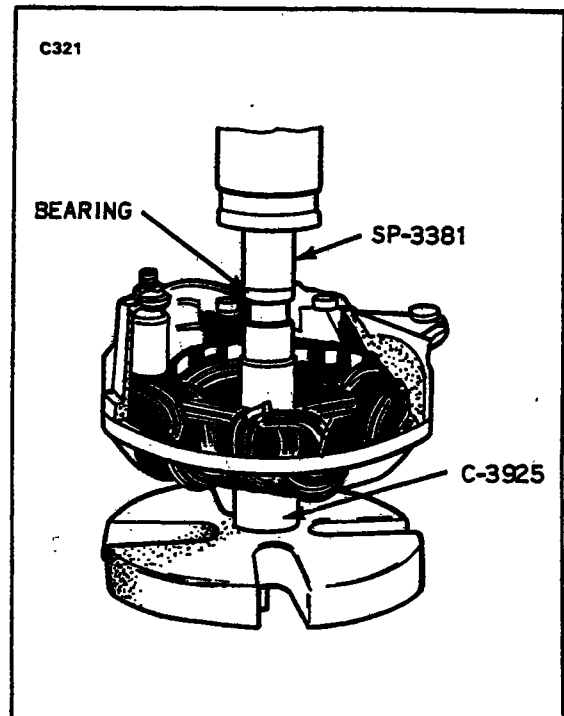

Figure 11-29. Installing End Bearing
**11-59. INSTALLING NEEDLE BEARING IN END SHIELD.** (Refer to Figure 11-29.) Support the end shield on the C-3925 tool and press the bearing into the end shield with tool SP-3381. Tool SP-3381 has a concaved end that is shaped to fit over the end of the bearing case. It is essential to use this tool to prevent damage to the bearing.